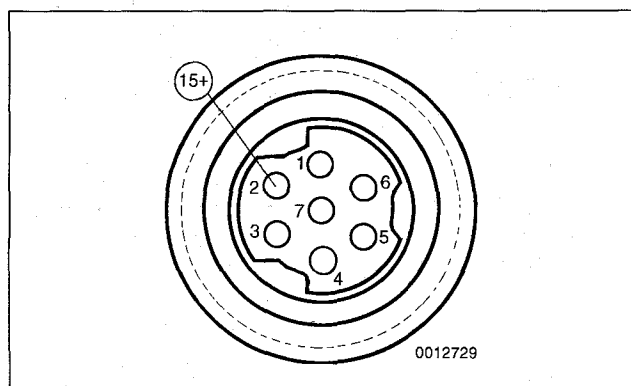

Fig. 5. Ignition coil harness connector terminal identification for M44 engine.
- On M44 engine, connect voltmeter between terminal 2 (15+) in connector and ground. Turn ignition on and check for voltage. See Fig. 5.
Terminals (refer to Fig. 5.)	Resistance